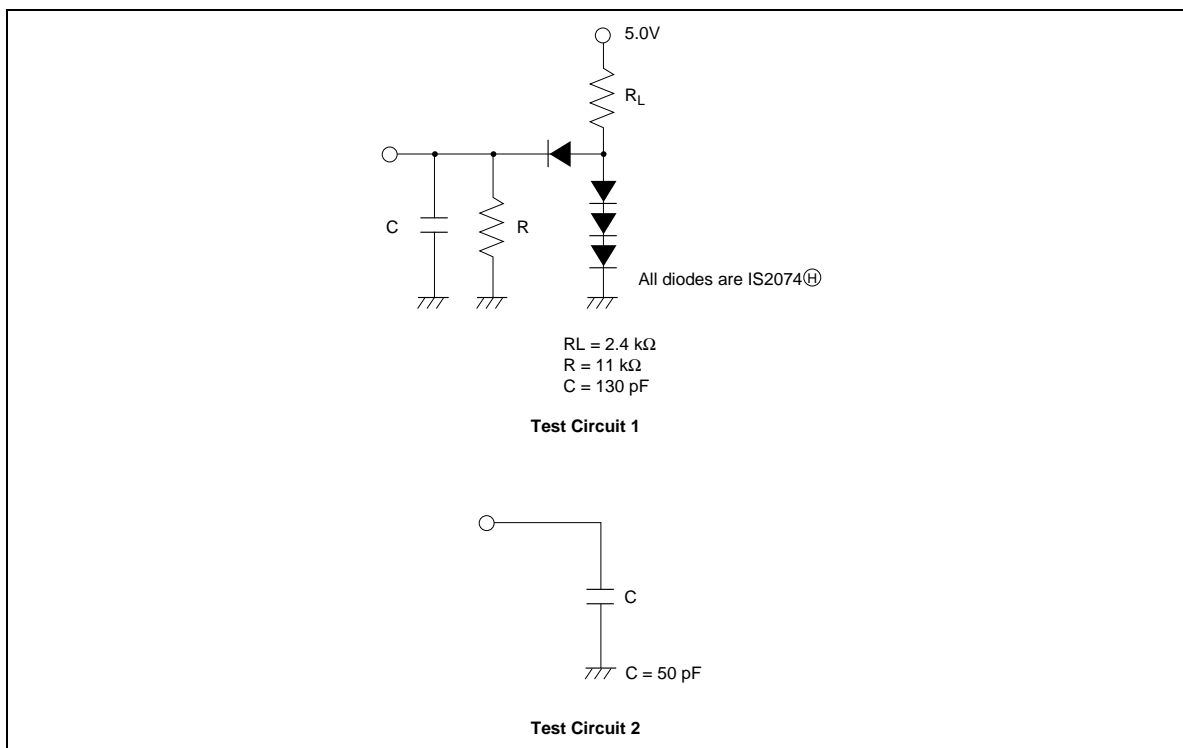

Figure 39 Load Circuits
Note: Measured by test circuit 1 (Figure 39).
4. Measured by test circuit 2 (Figure 39).
Note: Measured by test circuit 2 (Figure 39).